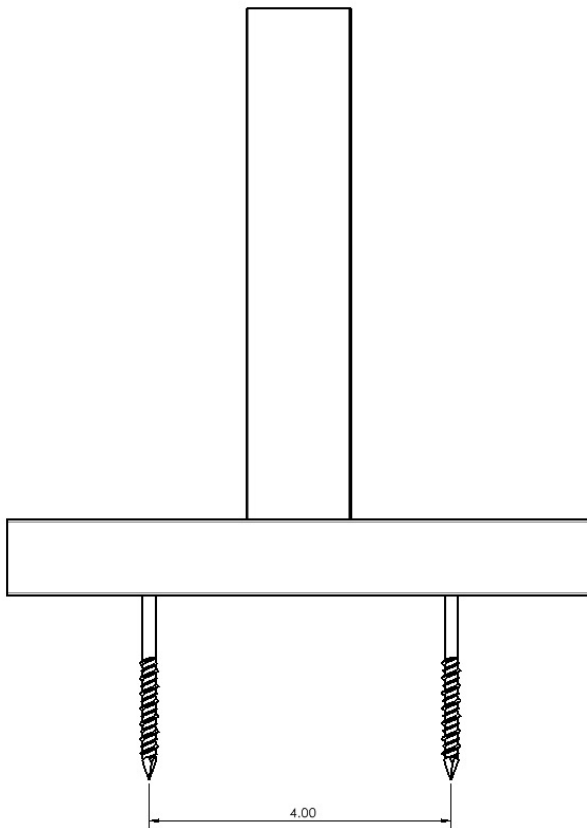

Figure 18
13. For both block frame and nail fin frames, additional anchors are needed at each T-bar location. At each T-bar location, hard block/shim as needed and once level, drill (2)  $\frac{1}{4}$ " diameter holes 2" from each side of the T-bar through the anchor screw groove. Pump a generous amount of Dow 795 sealant, or equivalent, through the anchor holes and install (2) additional  $\frac{1}{4}$ " diameter x 3" anchors. Apply and tool additional sealant over the heads of the anchor screw. (See Figures 18 and 19)